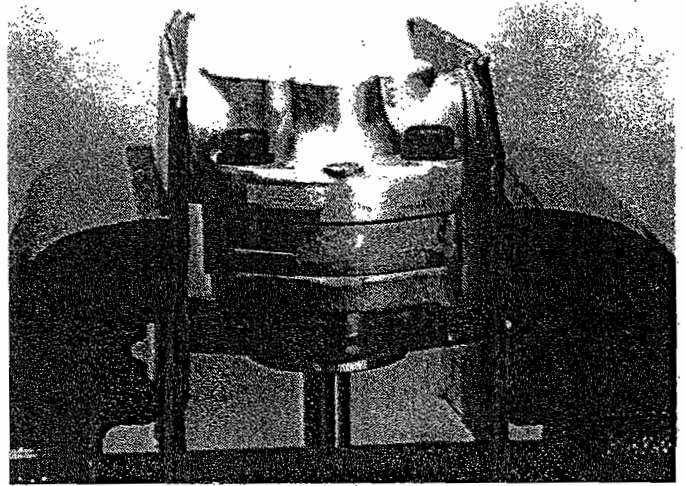

Fig. 3
3. Place pump in a machinist's vise, with hex-head capscrews up. Use cardboard between jaws of vise and sides of the pump. This will prevent marring or damaging the machined surfaces of the pump plates. (Fig. 3)